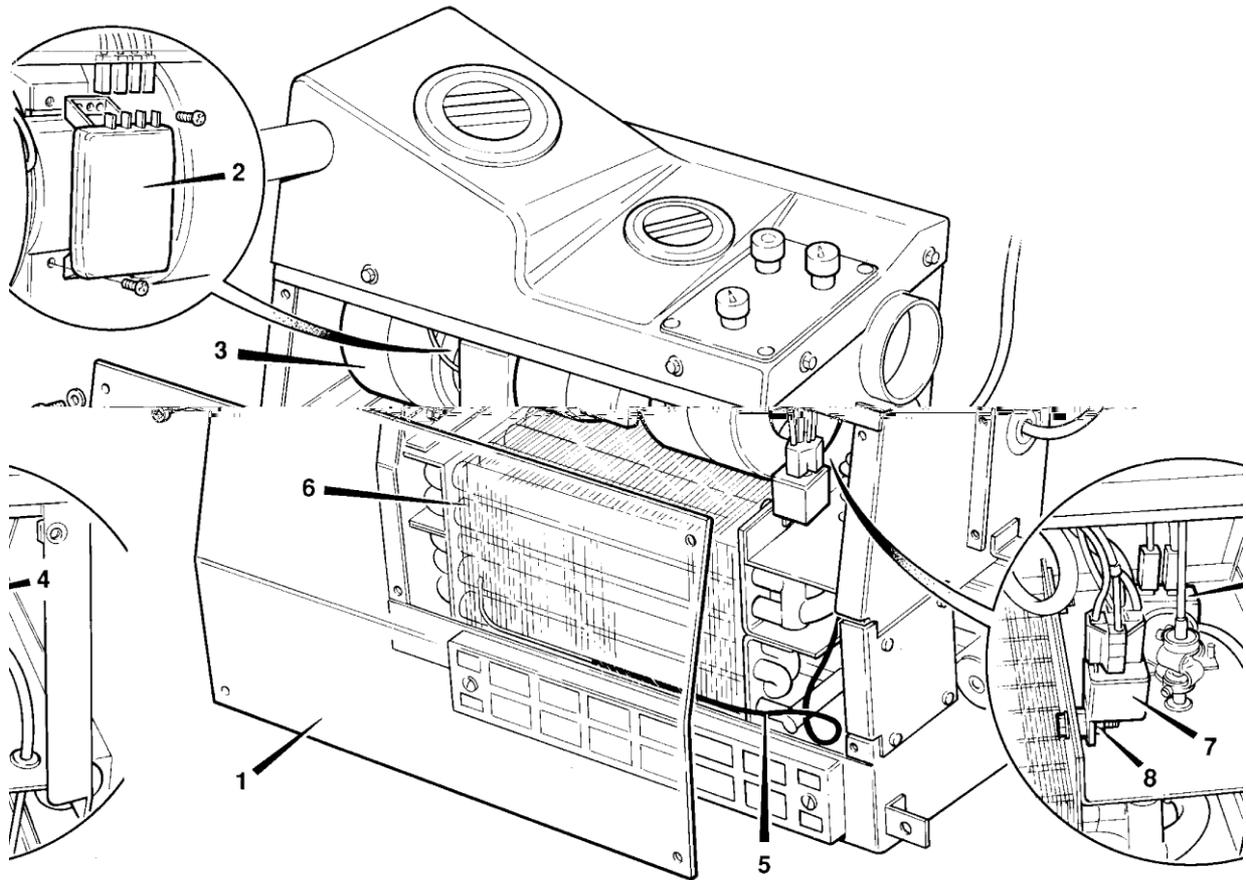

Fig 5. Heating, Ventilation and Air Conditioning Unit (HVAC)
- 1 ⇒ Fig 5. \(□ B-77\). Remove the four screws and the front panel **1** of air conditioning unit.
- 1 ⇒ Fig 5. \(□ B-77\). Disconnect the electrical connections from the thermostat **4**.
- 1 ⇒ Fig 5. \(□ B-77\). Disconnect electrical connections from relay **7**.